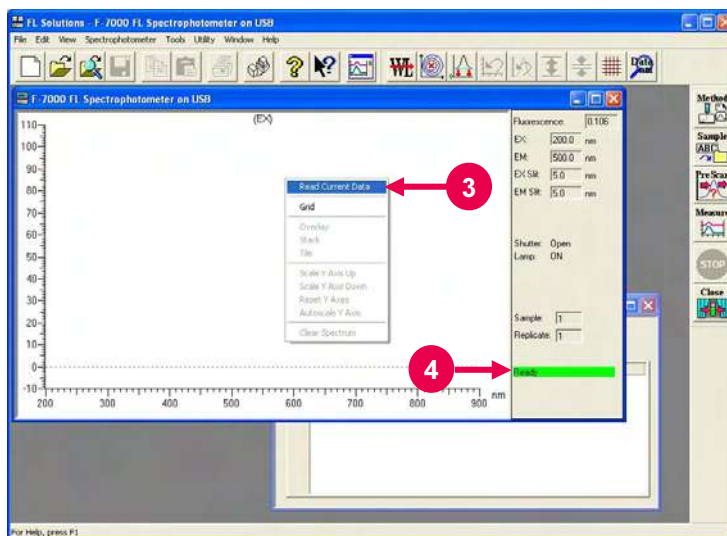

Fig. 7-53
- (3) Bring the mouse pointer onto the monitor window and click the right button of the mouse. A menu box will appear. Select "Read Current Data" from the menu box (refer to ③ in Fig. 7-53), and the photometric value and data value will be read into the Read Data box.
Upon start of data reading, Parameter → Scanning → Ready are displayed sequentially in the message display area (refer to ④ in Fig. 7-53).